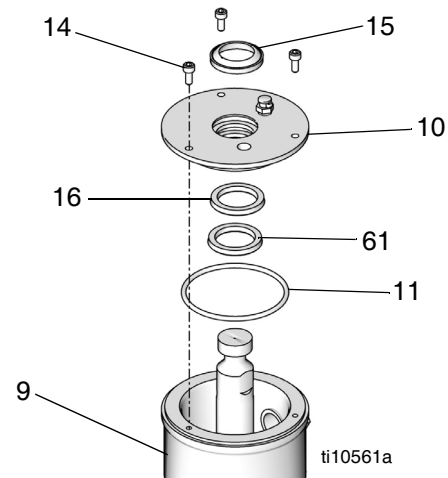

FIG. 5
5. On displacement pumps with enclosed wet cups (9), use an M4 hex wrench to remove the three screws (14) from wet cup cover (10) and remove cover. Drain and clean out the wet cup (9). See FIG. 5.
6. On displacement pumps with enclosed wet cups (9), use o-ring pick to remove o-ring (11), and a flat head screwdriver to remove snap ring (61), wiper (15), and seal (16).